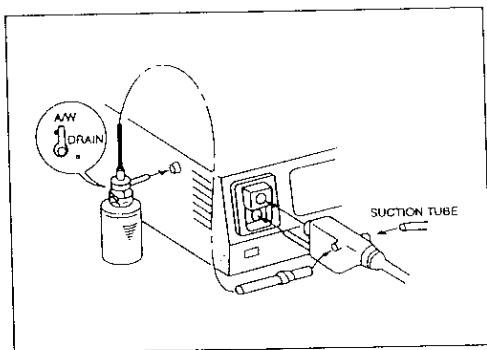

Fig. 12
2. Connect the scope slowly (Fig. 12).
4. Connect the water bottle Air/ Water connector to the Air/Water receptacle on the endoscope's umbilical connector (Fig. 12).
5. Connect the suction tube of the suction device to the suction nipple on the umbilical connector of the endoscope (Fig. 12).